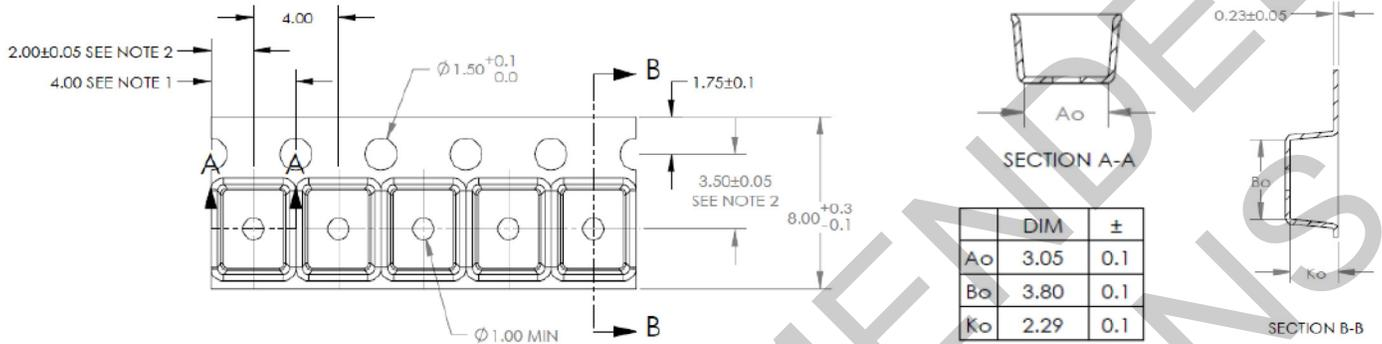

Figure 11. Pocket tape dimensions for SignalSure 75
- Notes for Figures 11 and 12: